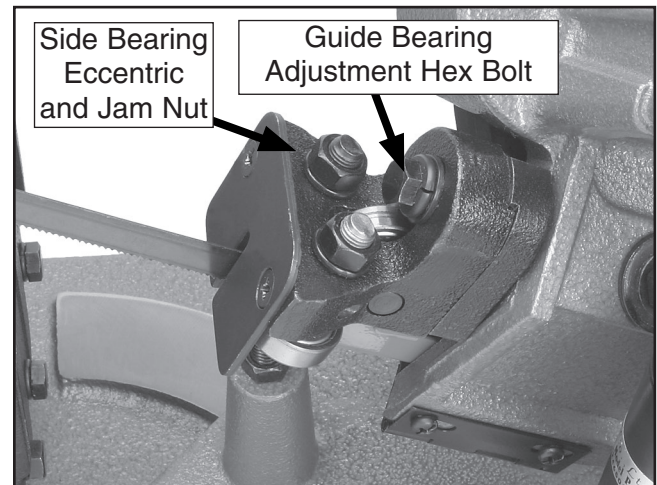

Figure 25. Blade guide adjustments.
3. Using a 12mm wrench, loosen the guide bearing adjustment hex bolt (see **Figure 25**).